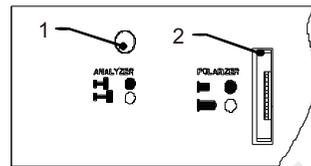

Fig.4
3. Check the condition of analyzer pole 1. Pull the pole out optical path, as shown the mark “□○”. Check the condition of polarizer 2. Pull the polarizer out optical, as shown the remark “┃○”. As shown in Fig.4